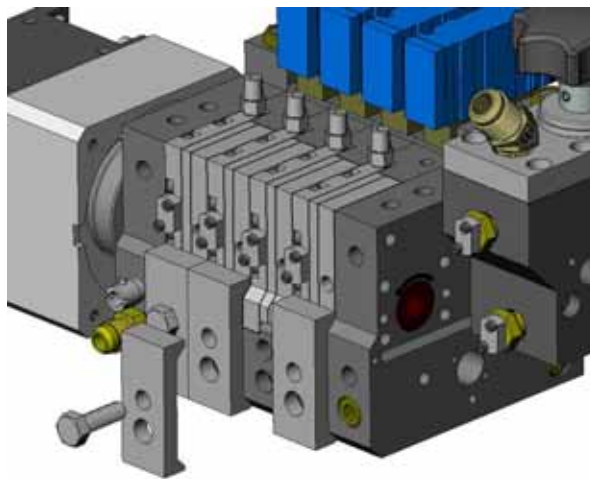

Figure 7-8 Removing a pump clamp
5. See Figure 7-8. Use a 13 mm hex or socket wrench to remove the pump clamp for the pump to be replaced.